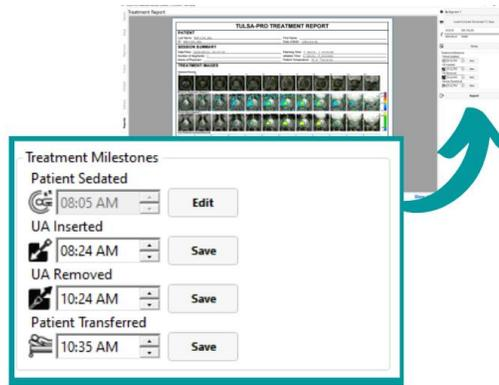

Figure 57: Treatment Milestones panel in Reports workspace
**MRI Technologist:** Use the Treatment Milestones panel in the *Reports* workspace (Figure 57) to record:
- The time when the Urologist removed the ultrasound applicator (UA), and